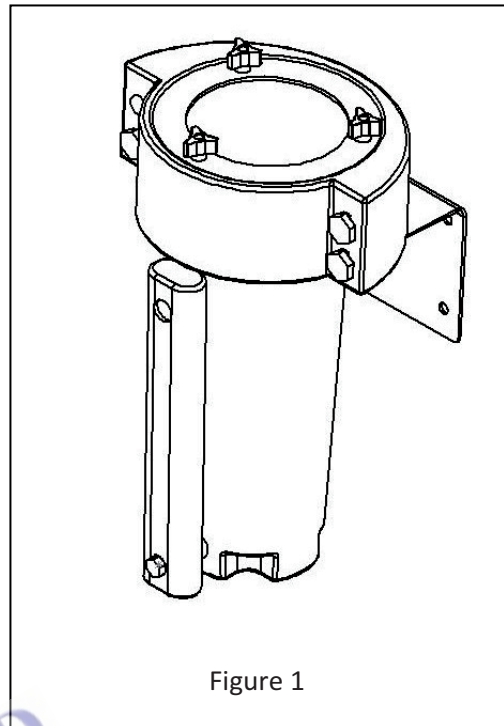

Figure 1
NOTE: The bracket can be mounted in either position illustrated in Figure 1 or 2.
5. Once the bracket has been firmly attached, Figure 1 position the separator above the bracket with the connections facing the wall.